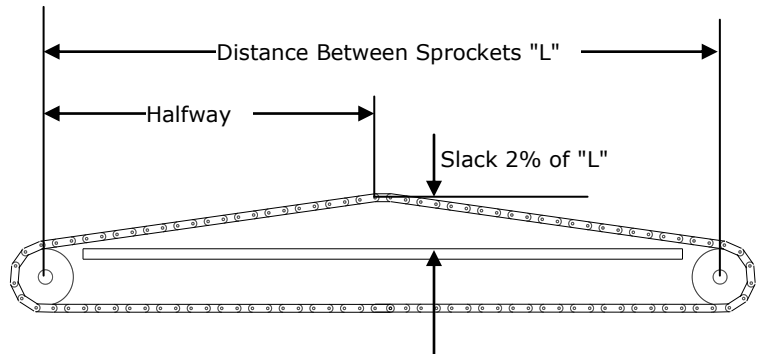

Figure 4.2 – Initial Tensioning of Chain on SL6 Conveyor
- Adjust the chain tension using the take up sprocket. Refer to Figure 4.2. Lift the chain half way between tail sprockets and measure the gap. It should be 2% of the distance between tail sprockets.